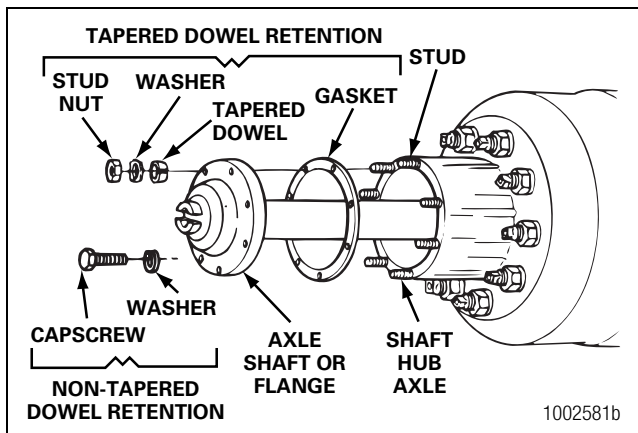

Figure 3.4
4. Remove the tapered dowels and separate the axle shafts from the main axle hub assembly. Figure 3.4.
4. Remove the tapered dowels and separate the axle shaft from the main axle hub assembly. Figure 3.4.